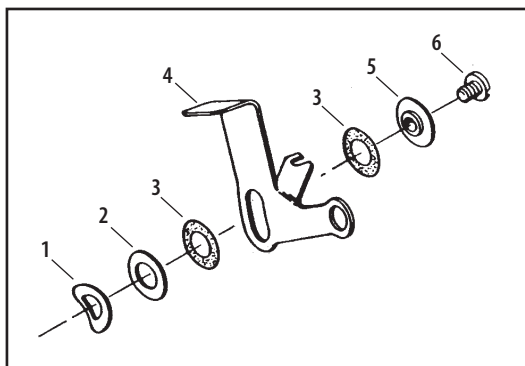

Figure 1
- 2- Install the fast idle lever assembly as shown in **Figure 1**. Apply a small amount 243 blue Loctite to the threads of the screw and thread into the backplate. Be careful not to overtighten.